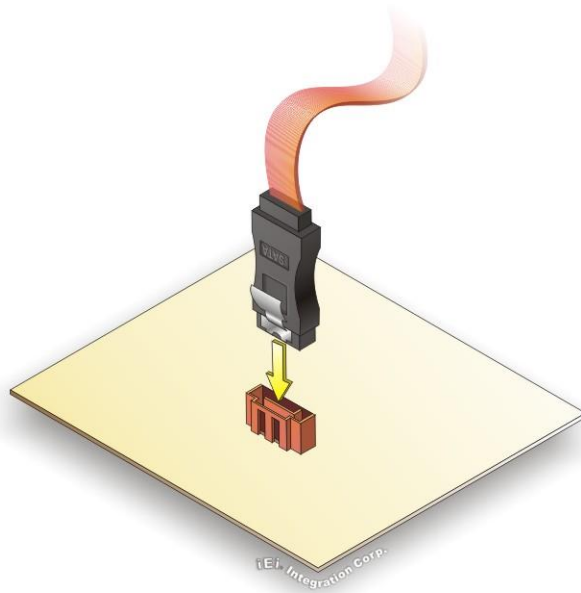

Figure 3-1: SATA Drive Cable Connection
Step 2: Insert the cable connector. Insert the cable connector into the on-board SATA drive connector until it clips into place. See **Figure 3-1**.